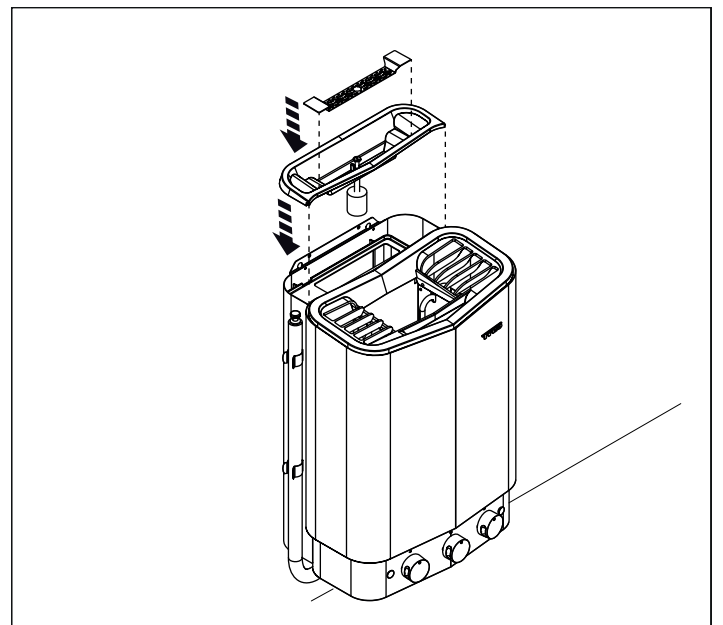

Figure 14: Fit the cover for the water reservoir and herb grille
12. Fit the cover for the water reservoir and herb grille (see Figure 14). Take care not to damage the float.